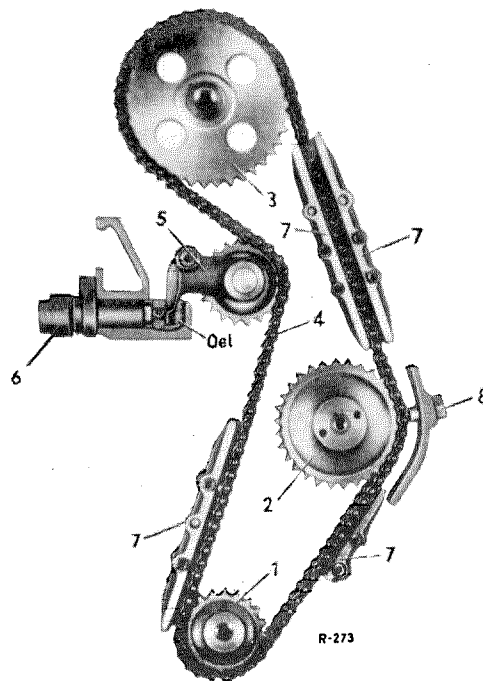

Fig. 05 — 5/9
It is advisable to replace faulty chain tensioners as a complete assembly. If individual parts are obtained for replacement, the thrust pin (2) and the thrust sleeve (7) can only be supplied together since both parts must be selected so as to match perfectly (Fig. 05 — 5/10).